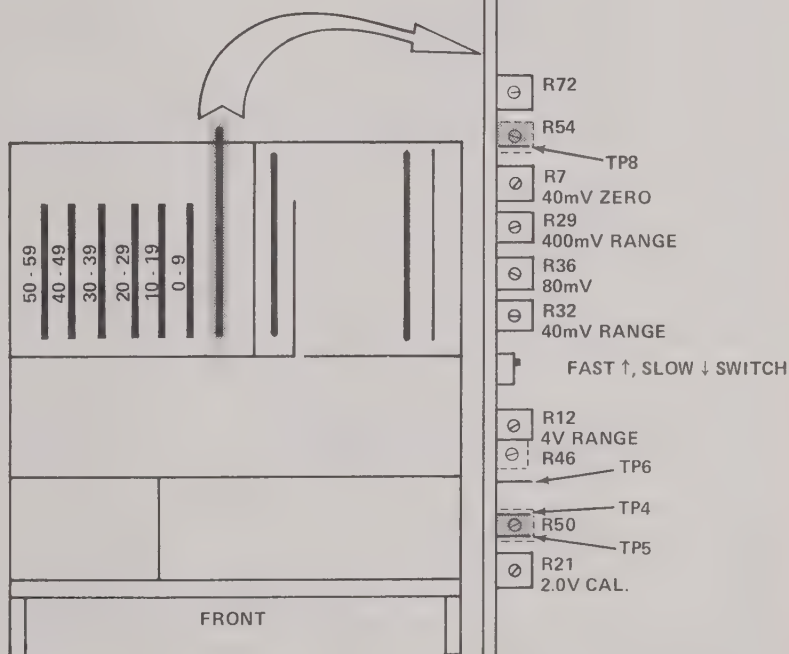

Figure 610-3. High Performance A/D Converter Test Point and Adjustment Locations
610-33. The A/D Converter is accessed by removing the top dust cover, and the inner guard cover from the data logger. The position of the A/D Converter in the data logger is shown in Figure 610-3. Access to the calibration adjustments does not require the removal of the guard cover. The test points referred to in the Calibration procedure are accessible through the rear panel.
610-36. The free-run measurement speed of the a/d converter (i.e., no interruptions for recording data) is switch selectable at either 3 or 15 readings per second. Selection is accomplished by manually positioning a fast/slow switch which is located on the top-edge of the High Performance A/D Converter PCB Assembly. Figure 610-3 defines the switch location as well as the fast/slow switch positions.
can be temporarily attached to a suspect channel to check its operation, or permanently connected to dedicated channels to establish a system self-check feature. The location of the test voltage output connectors (TP1, TP2 and TP3) is shown in Figure 610-3.
610-40. The High Performance A/D Converter should be calibrated when the data logger is calibrated or after major repairs have been made to the pcb. A DC calibrator and a DVM are required for calibration. The recommended instruments are listed in Section 4, Table 4-1. The calibration adjustments and test points are all located on the A/D Converter PCB, and are shown in Figure 610-3. Use the following procedure to calibrate the High Performance A/D Converter:
- e. Set the Fast/Slow switch on the A/D Converter to Slow. See Figure 610-3.